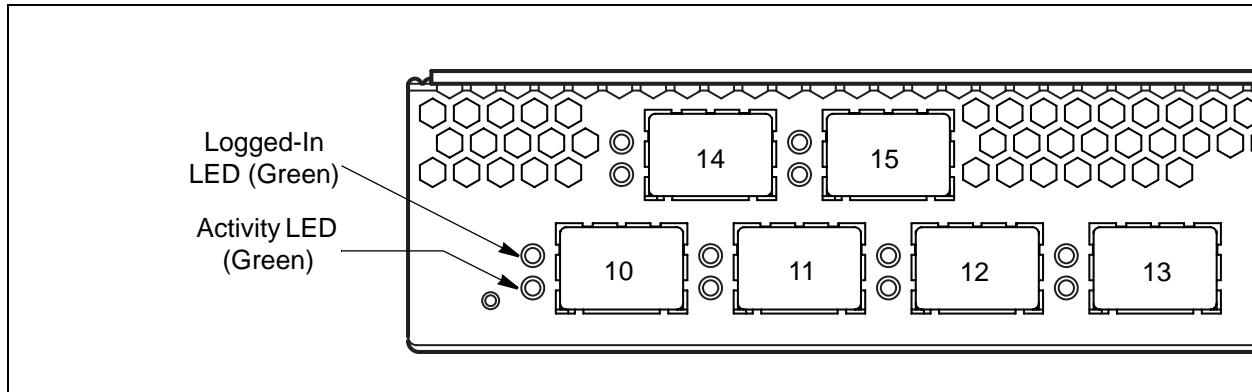

Figure 1-6. External Port LEDs
Each external port has its own Logged-In LED (L) and Activity LED (A) as shown in Figure 1-6.